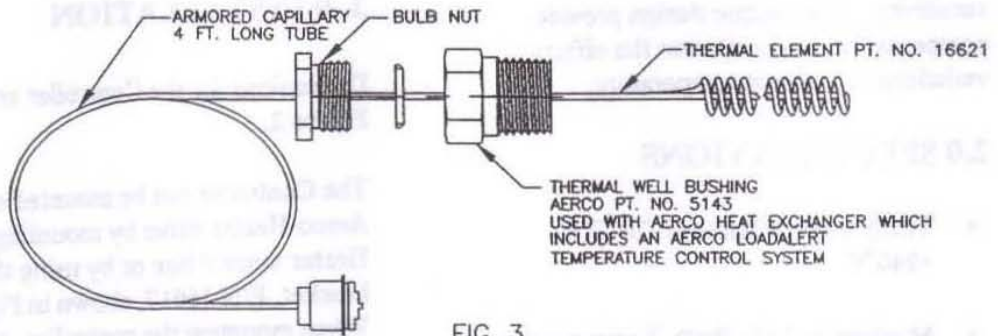

FIG 3
3.1 CONTROLLER PART NO. 18557-1 must be used when the AERCO Heat Exchanger includes an Anticipator Temperature Control System. A thermal well bushing, P/N 5143, is used with the Controller thermal element, (see Figure 3). When the bushing is furnished, insert the bushing and thermal element bulb into the connection marked "Thermostat" on the top head of the Heat Exchanger (See the